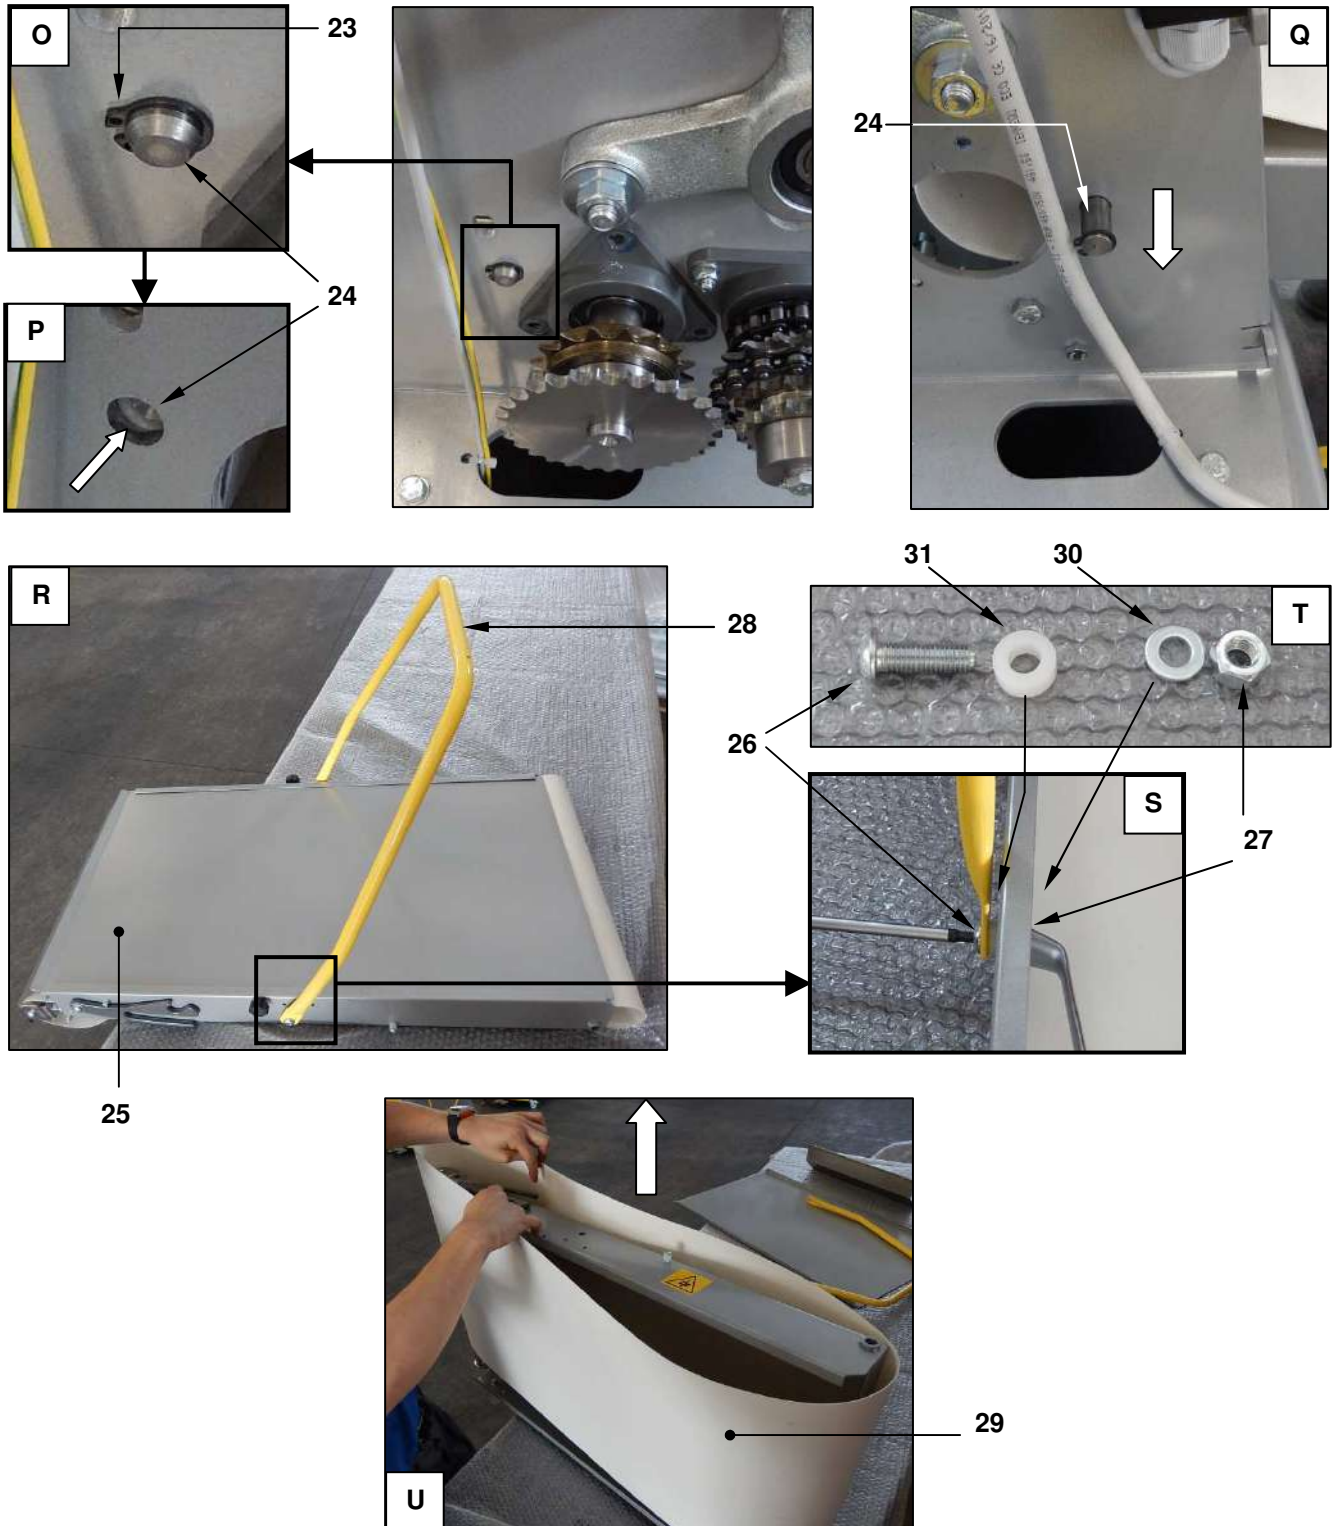

Figure 37 - SF450 and SF500: Removing the tables and replacing conveyor belts
With reference to Figure 37, which shows mod. SF500 (for mod. SF450 the procedure is the same):
Start Figure 37 - SF450 and SF500: Removing the tables and replacing conveyor belts
Continued Figure 37 - SF450 and SF500: Removing the tables and replacing conveyor belts
36. using a locking adjustable wrench ref. 48, rotate the shaft ref. 49 and lower the upper roller assembly completely (photos D - E)
37. insert two M12 hexagonal head bolts or larger, between the bar ref. 50 (if necessary, remove the upper scrapers, see section 4.5) and the shaft ref. 49 that have a total length of 70 mm for the SF450 and SF500 models and 60 mm for the SF 600 model, with their nuts screwed on but without the ends of the screws protruding. Turn the nuts until the screws+nuts are locked against the bars. Check that the sheets of paper are gripped between the rollers (photo E shows the assembly tools used by Flamic instead of the nuts and bolts, but the principle is the same).
38. reinstall the control devices in their original positions on the casing ref. 9. Press the actuators ref. 51 and the terminal blocks together ref. 52 through the holes ref. 53 (photo G)
39. install the casing ref. 9 on the controls side and secure it using all the screws provided.
40. install the rack ref. 7 and secure it using the two screws ref. 8 (photo H)
41. replace the screws ref. 2 of the handle ref. 6 locking assembly ref. 4 into their original position. Place the handle ref. 6 on the shaft ref. 5 (photo I) and position it 2-3 mm from the rack ref. 7 (the pin ref. 7 protrudes a few mm with respect to the locking assembly). Then gradually tighten the screws ref. 2 in a crosswise pattern (see tightening sequence example V1 to V5 in photo K). Stop when the screws start to become tight.
42. keep the plate ref. 54 under the hand grip of the handle ref. 6 pressed so that the tooth ref. 55 is disengaged from the rack. Then move the handle through the length of its stroke and check (also by using a thickness sample) that the distance between the tooth ref. 55 and lower profile of the plate ref. 7 is 2-3 mm in every position (photo J) and that in every position between handle and the internal face of the rack there is a gap of approximately 2 mm.
43. check that the sheets of paper ref. 47 are pressed between the rollers (it must not be possible to remove them by pulling)
44. check that the tooth ref. 55 engages properly at several points of the plate ref. 7
45. engage the handle in the fourth notch of the rack starting from the lowest rolling thickness and using a torque wrench set to 7 Nm (no greater in order not to damage the locking assembly), gradually tighten the screws ref. 2 in a crosswise pattern (see tightening sequence example V1 to V5 in photo K).
46. insert the boss ref. 1 Figure 37/A in its seat on the locking assembly